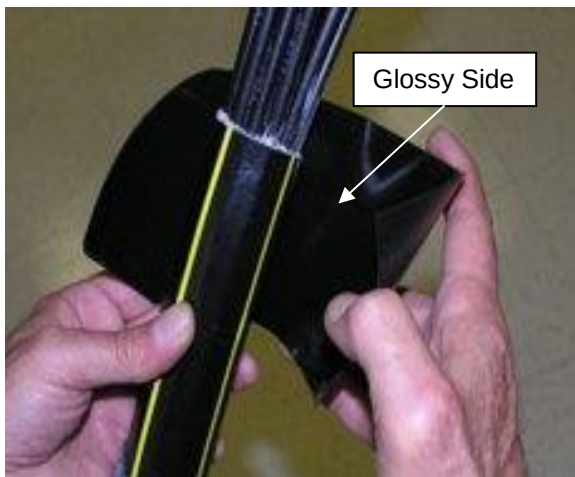

Figure 13
12.1 With glossy side of Encapsulant Container facing the tube cable jacket, position bottom edge of Container around circumference of tube cable. See Fig. 13.